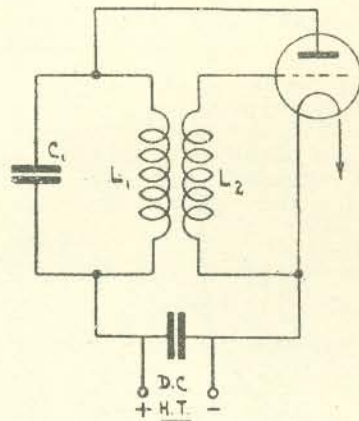
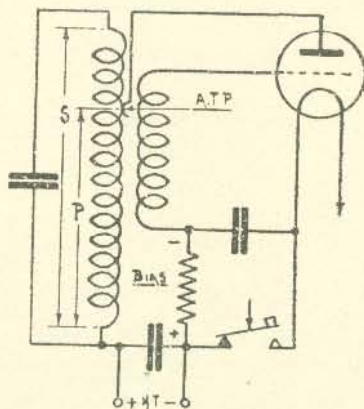
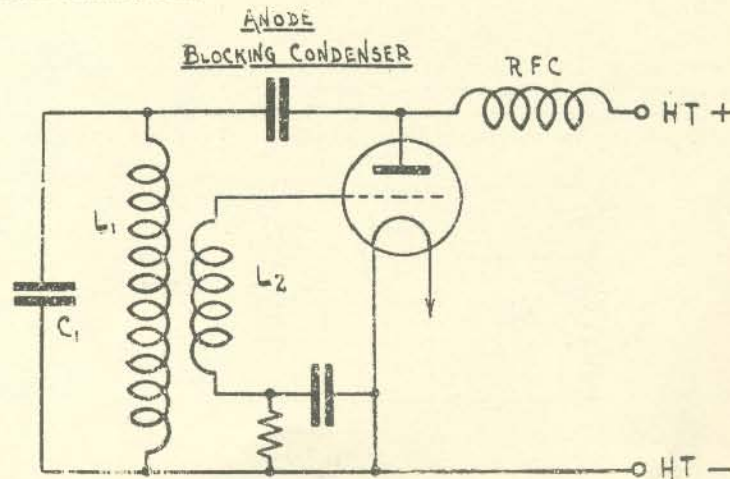

FIG. 51.—Simple oscillator.
FIG. 53.—Practical oscillator for L.F.
FIG. 57.—Parallel fed oscillator.
(b) In fig. 51, L_1 , C_1 , is an oscillatory circuit forming the anode load of the self-excited R.F. amplifier valve, and L_2 is the grid coil coupled to L_1 . In order to commence oscillations, C_1 must be charged. As soon as the H.T. circuit is switched on, the anode current rises, and the induced E.M.F. which it produces across L_1 will charge the condenser. The resultant oscillation will be feeble and would normally soon die away owing to the resistance of L_1 , etc.; as L_2 is coupled to L_1 , however, voltages will be induced in L_2 , and these will be applied to grid and filament of the valve. The grid/filament voltage now fluctuates at the same frequency as the oscillation in L_1 , C_1 , and this voltage will cause the anode current to vary through L_1 . This current will assist the oscillatory current in L_1 , C_1 , and oscillations will be maintained if the above conditions are fulfilled.
2. Practical Circuits.—The simple valve oscillator circuit of fig. 51 is similar to Meissner's valve oscillator, which also employed mutual inductance for coupling between anode and grid circuits, another variation is shown in fig. 36. The circuit of fig. 51 is insufficient for modern requirements, and a practical circuit is shown in fig. 53.
3. Supply or "Feed" Methods.—All the circuits of figs. 51 to 56 are "series fed", i.e. the H.T. current passes through the oscillatory circuit, which is, therefore, at a high D.C. potential. If the "L.C." circuit is in parallel with the valve and the H.T. supply, as at fig. 57, the oscillator is said to be "parallel" or "shunt fed". A "blocking" condenser and R.F. choke are necessary in fig. 57, the condenser to prevent L_1 from short circuiting the D.C. supply, and the choke to prevent the low impedance of the D.C. supply short circuiting L_1 . "Parallel feed" is not used to any extent in R.A.F. sets.